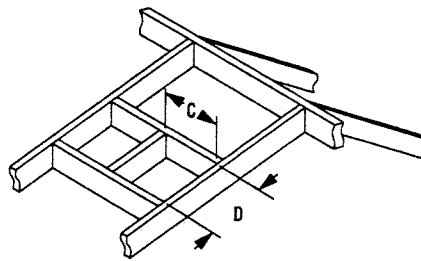

Figure 32
E. At transition from or to a horizontal/inclined run, the _DST5-90ELB/_DST5-45ELB/_DVSP5-90ELB elbows install in the same manner as the straight vent sections. Apply Mill-Pac Black (700°F) high temperature sealant to the inner joints. Slip the inner elbow over the straight inner vent section. Secure with two (2) screws. Slide the outer elbow over the inner elbow, slip down over the outer vent section. Secure with two (2) screws.
H. Identify location for vent at the roof. Cut and/or frame opening per Roof Framing Chart and Figure 32.